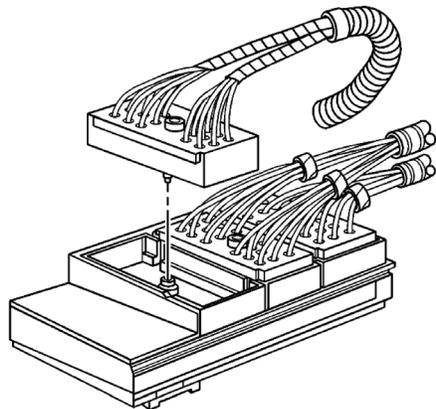

Fig. 6 Underhood junction block wiring harness connectors
13. Disconnect wiring harness connectors from junction block, **Fig. 6**.